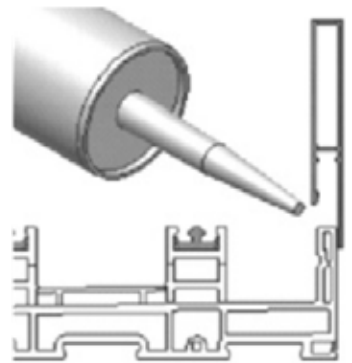

Figure 8
- 3. If a by-pass door**, locate the sill riser (Item 17, 18, 19, or 20). Line the riser up with the frame sill and apply a small bead of sealant along the top of the frame sill (Figure 8). Secure the riser with a rubber mallet, ensuring it snaps into place.
8. The sill riser will require trimming in order to butt up against the P-hook (Figure 7). Line the sill riser up with the frame sill and apply a small bead of sealant to the top of the sill (Figure 8). Secure the sill riser into place with a rubber mallet, ensuring it snaps into place.